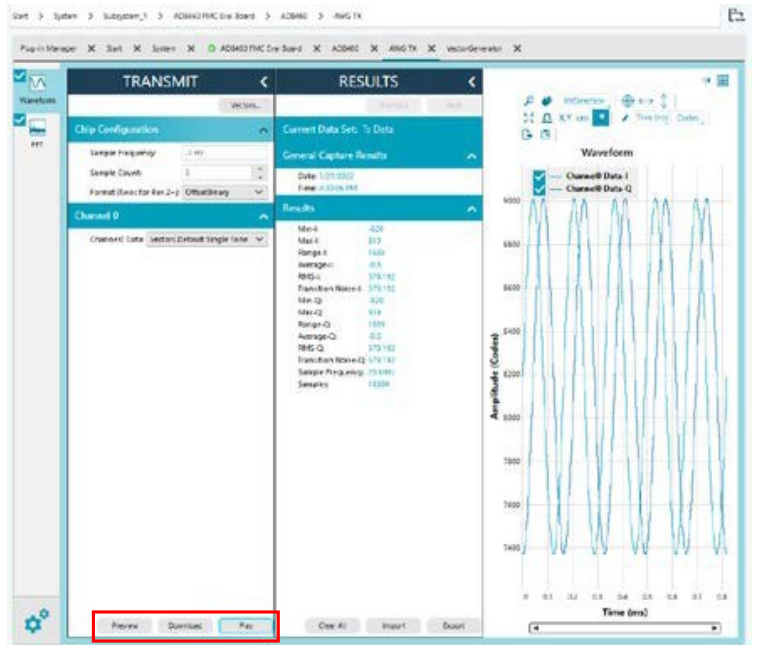

Figure 28. Full Preview of Selected Vector
- d. Click **Zoom to Fit** in the waveforms tab so the preview looks like Figure 28.
- e. Click **Download** to transmit the vector to the FPGA. Downloading the vector may take a minute. The vector is ready when the waveform reverts to default preview, as in Figure 28. Refer to item 2 in the **Known Issues** section if the desired output does not appear. There is a known issue where the vector generator tool only produces a square waveform.